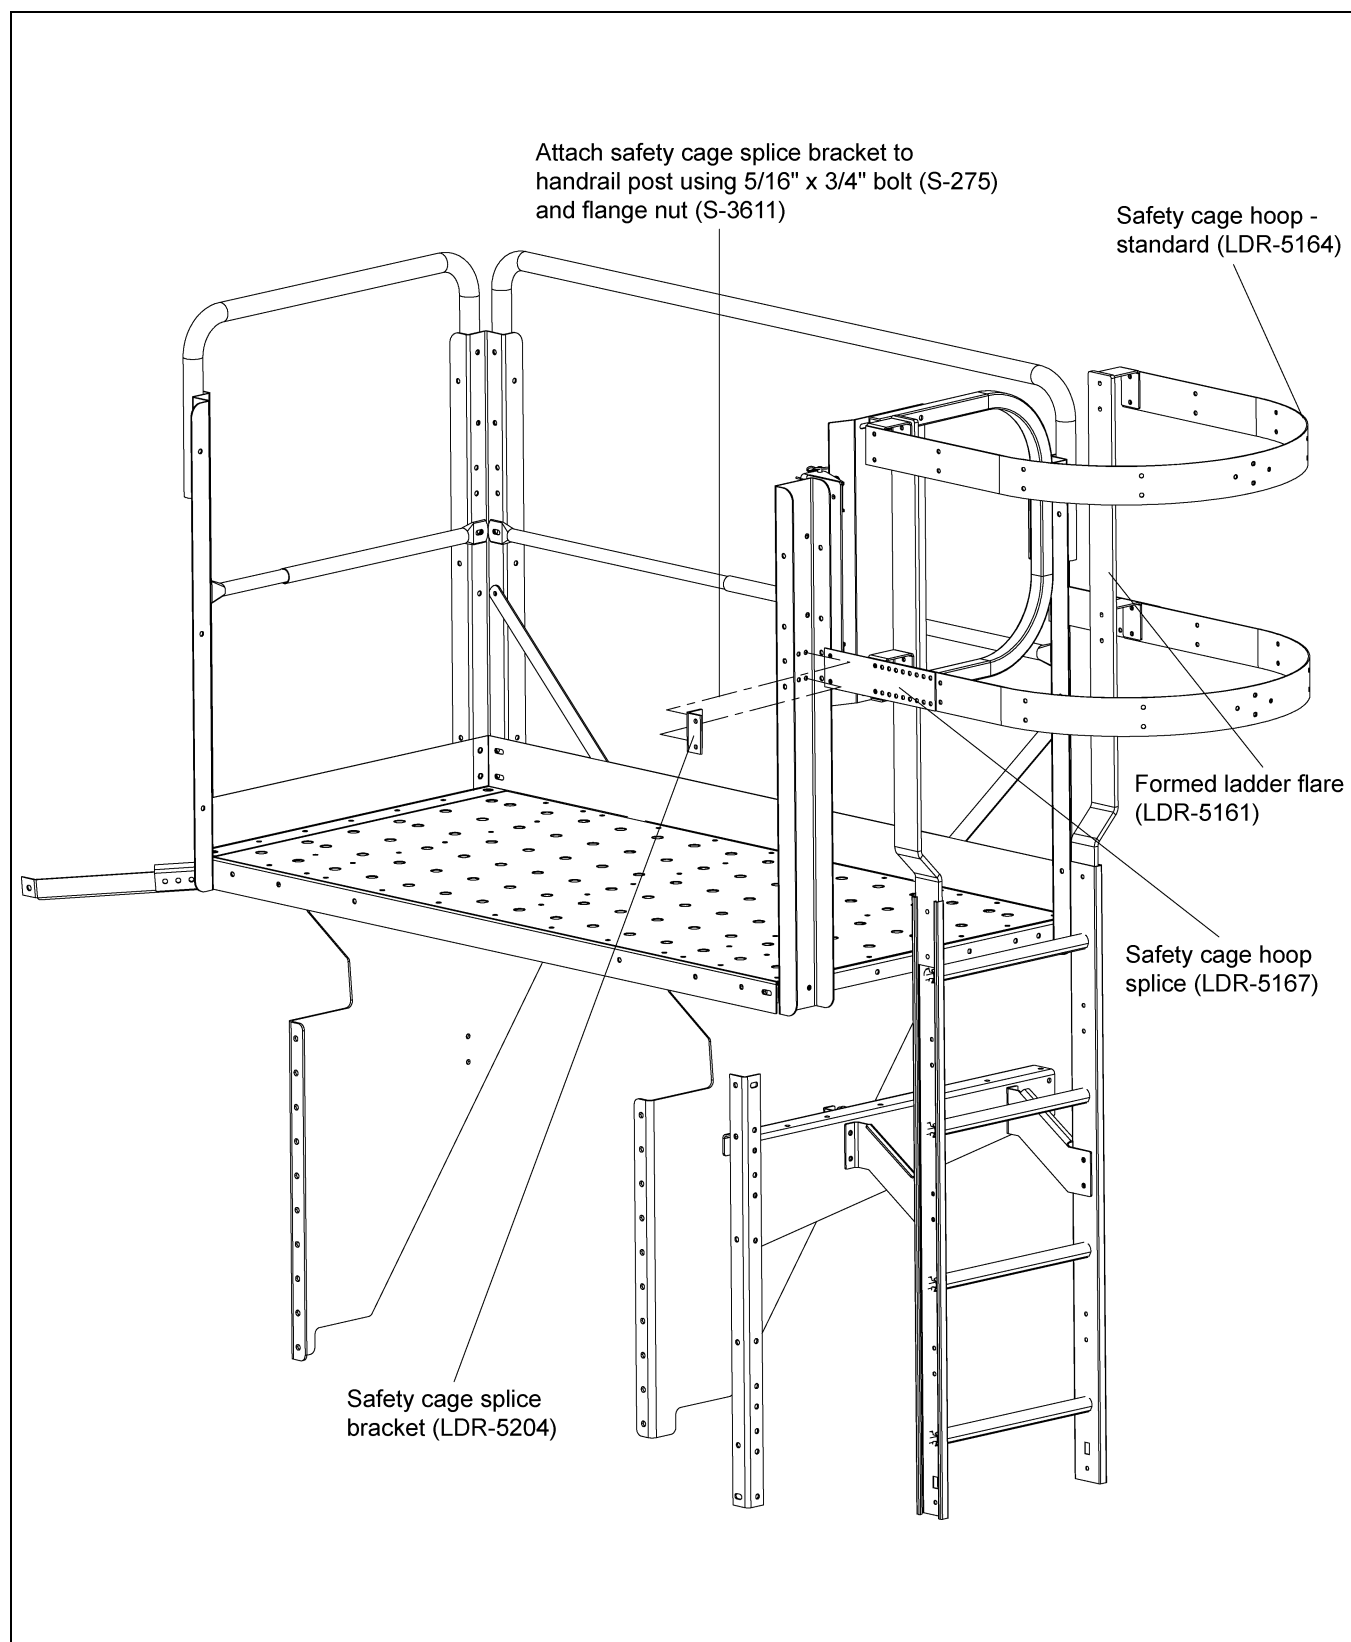

Figure 4I
11. Attach the cage splice bracket to the post and cage splice using 5/16" hardware. (See Figure 4I.)